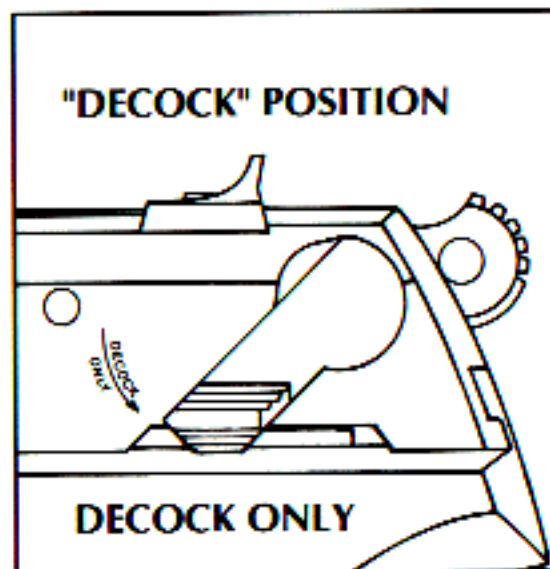
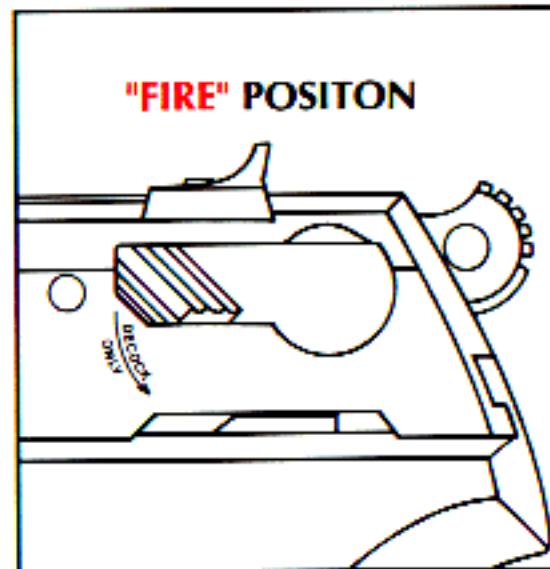

FIGURE 1
FIGURE 2
To decock the pistol, **point the pistol in a safe direction**. Depress the decocking lever until the hammer drops. The decocking lever first moves the firing pin into the slide far enough so that the rear end of the firing pin cannot be struck by the hammer. Only then will continued depression of the decocking lever safely drop the hammer to an uncocked position (see Figure 1). To return the pistol to firing condition, simply release the decocking lever (see Figure 2). It will spring upward to its original position. The pistol is then ready to fire by a "double-action" pull of the trigger. The hammer can also be manually cocked immediately before shooting a "single-action" firing. The trigger pull is both shorter and relatively lighter in the "single-action" mode, which is preferred for more accurate shooting.
1. The muzzle of the pistol must be pointing in a safe direction at all times, and fingers should be outside of the trigger guard. Decock the pistol by depressing the decocking lever until the hammer drops (See Figure 1, p. 6).